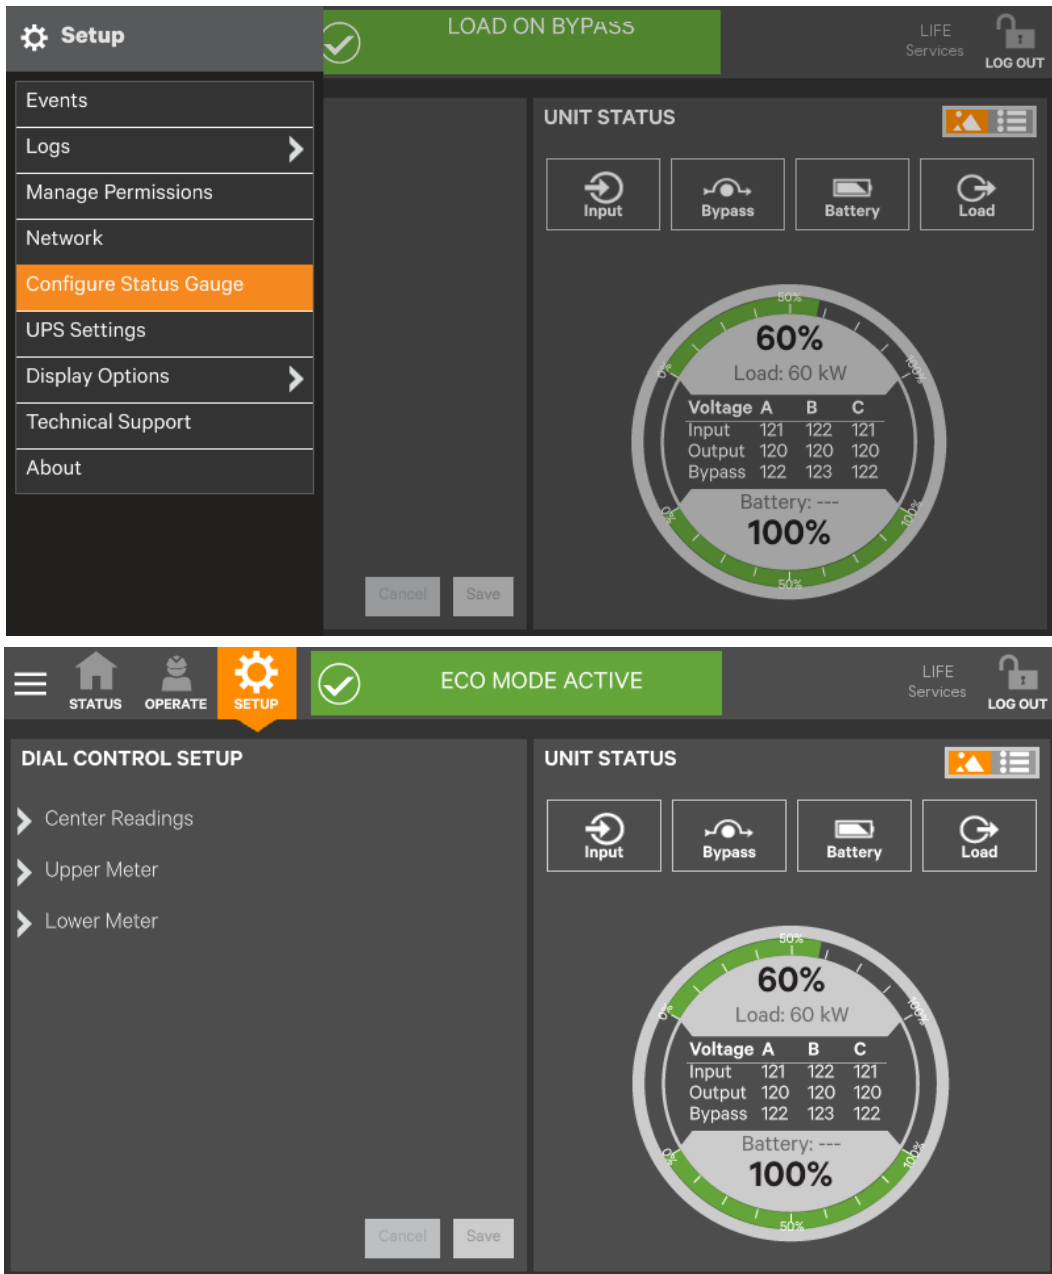

Figure 4-23 Access Status Gauge settings
- b. Put a check mark in the check box beside each value to be displayed (see Figures 4-23 and 4-24).
- c. Use the sliders to change the Warning Threshold or Critical Threshold (see Figures 4-23 and 4-24).